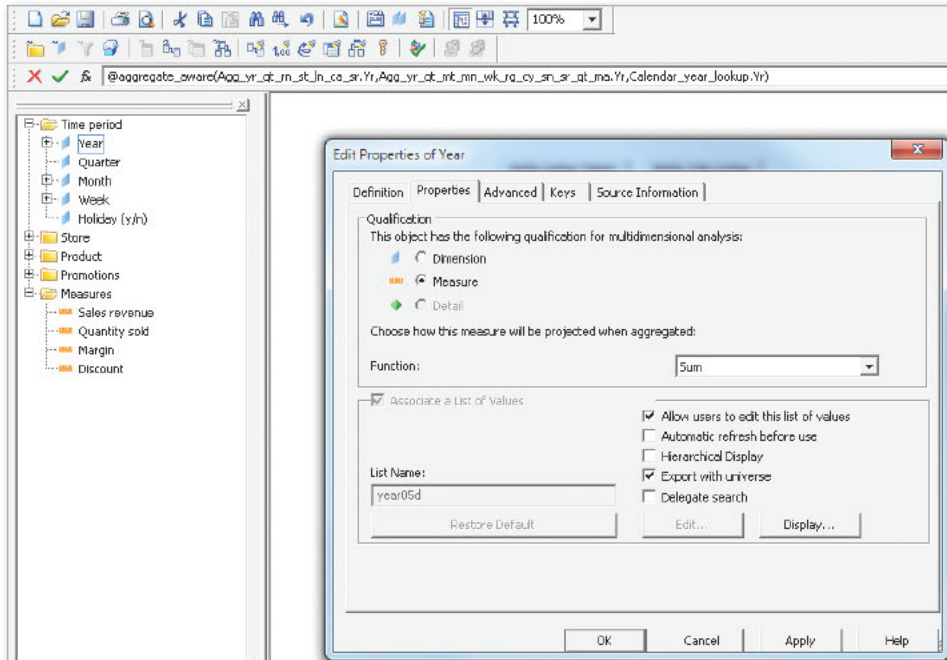

Figure 1 SAP BusinessObjects OLAP Universe Screen
1. First, within the SAP BusinessObjects OLAP universe, create a new measure object as shown in Figure 1.